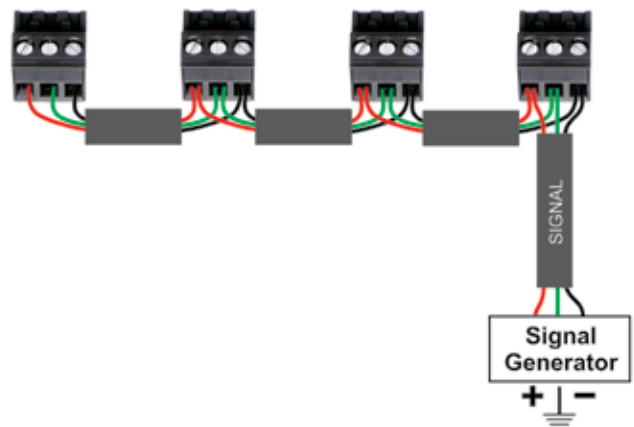

Figure B.2.24 – Barrier Block Connections for Parallel Inputs
- Use the jump wires included in the Parallel Wiring Kit and the Removable Barrier Block connectors that ship with each amplifier to create a paralleled input signal wire as shown in **Figure B.2.24**. Wire one input connector for each amplifier in your system.